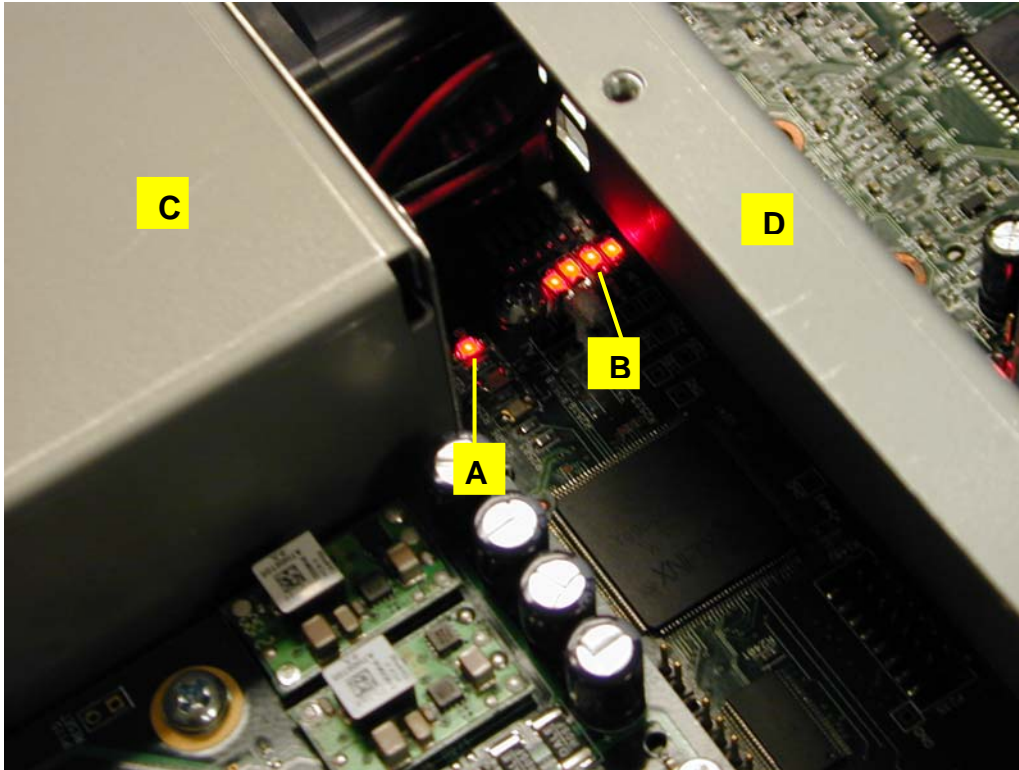

Figure 5 Power supply indicators
10. Inspect the LED indicators (figure 5 point A and B) on the module located in between the power supply module (figure 5 point C) and the support frame (figure 5 point D).
13. These LED indicators show the status of the various DC supply rails in the instrument. If any of the power supply LED indicators are not lighted as shown in figure 5, double check that the HDMI module has been correctly installed.